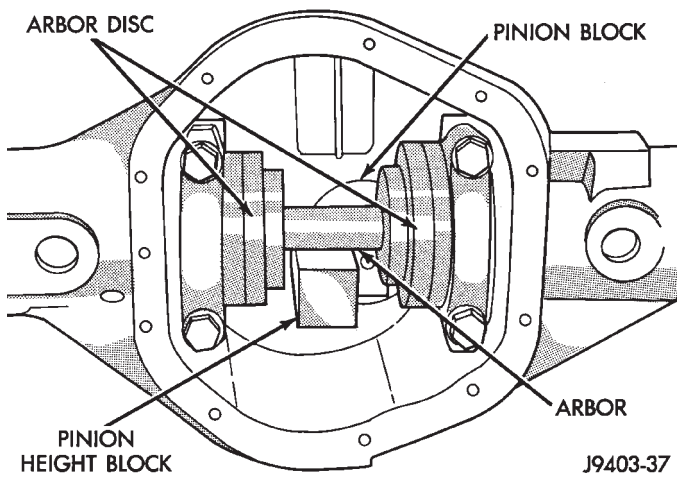

Fig. 80 Gauge Tools In Housing—Typical
(4) Place Arbor Disc 6732 on Arbor D-115-3 in position in axle housing side bearing cradles (Fig. 80). Install differential bearing caps on Arbor Discs and tighten cap bolts. Refer to the Torque Specifications in this section.